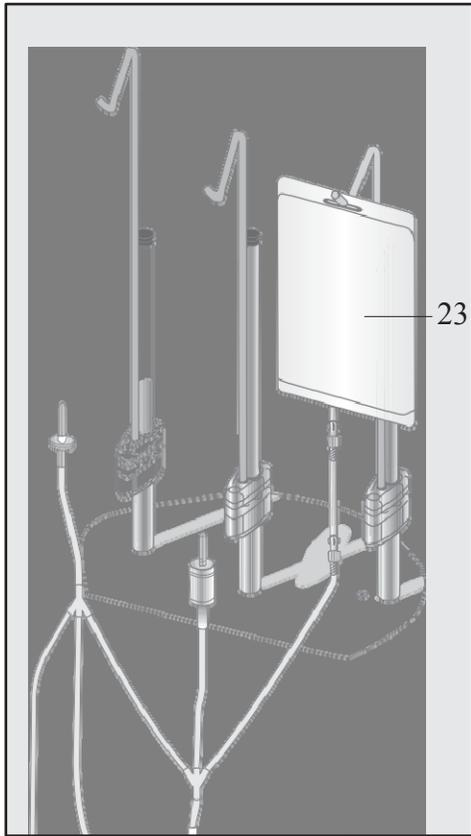

Fig 4.3-1: Attach Priming Waste Bag (23) to bag hanger.
1. Attach the Priming Waste Bag (23) to the right hand bag hanger on the instrument as shown (see Fig. 4.3-1).